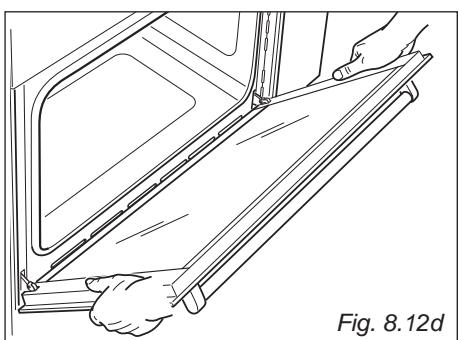

Fig. 8.12d
- Hold the door as shown in fig. 8.12d.